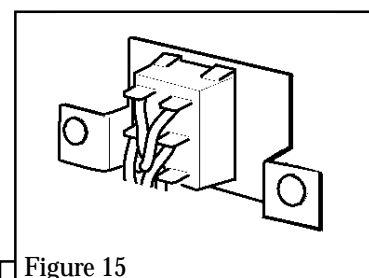

Figure 15
- Snap fit the switch into the opening in the switch mounting bracket. See figure 15
- Snap fit the switch into the opening in the switch mounting bracket. See figure 15.